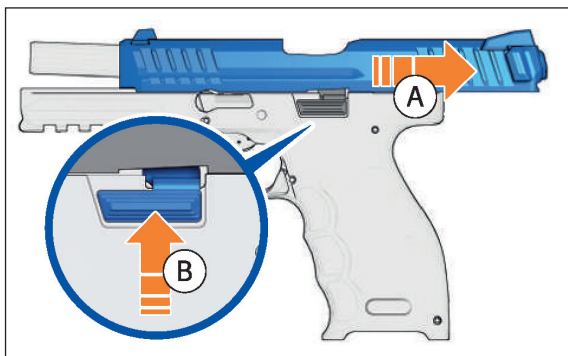

Figure 17 – Unloading
3. Lock the slide to the rear by pulling the slide rearward and pressing upward on either or both of the ambidextrous slide release levers. (Figure 17).